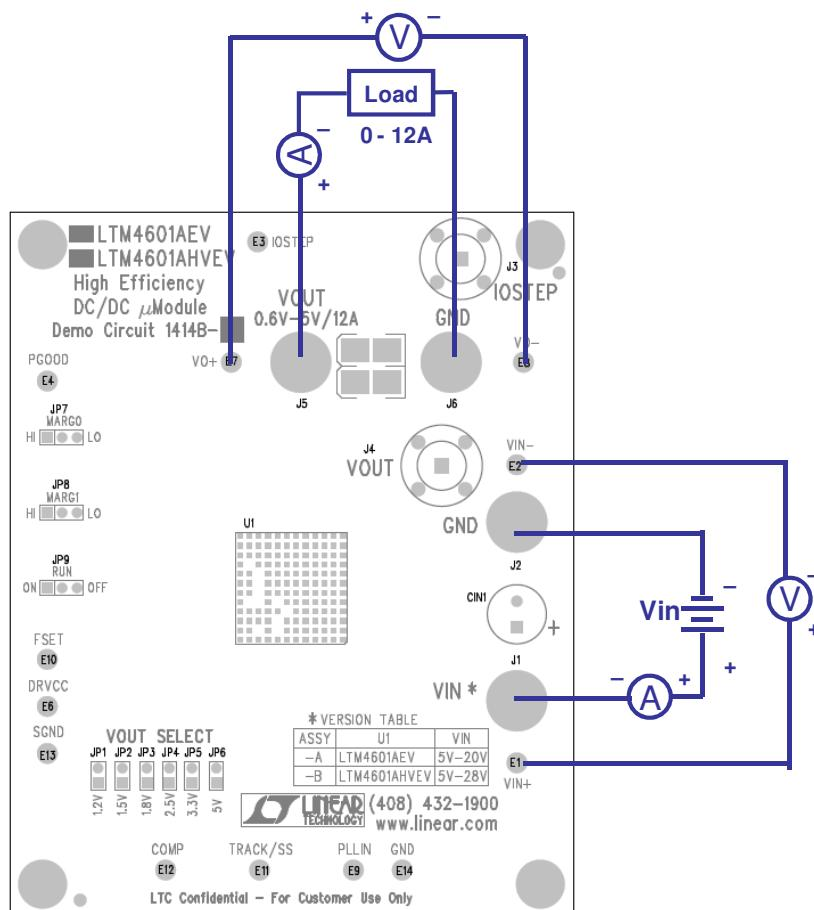

Figure 1. Test Setup of DC1414B-A/B
Demonstration circuit 1414B-A/B is easy to set up to evaluate the performance of the LTM4601AEV/LTM4601AHVEV. Please refer to Figure 1 for proper measurement equipment setup and follow the procedure below:
2. With power off, connect the input power supply, load and meters as shown in Figure 1.